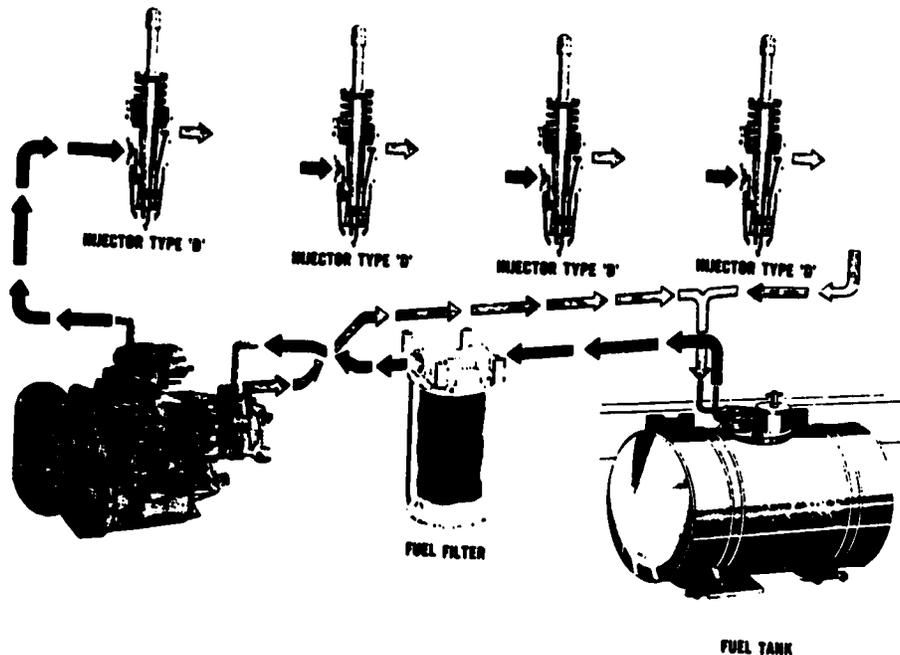

Fig 3-1. Pressure time (common rail) system fuel flow.
- The pressure time (common rail) system (fig 3-1), used exclusively on Cummins diesel engines, uses a gear driven pump to move fuel from the tank to the injectors. The fuel moving through the working parts provides lubrication and cooling for the injectors and pump. A flyweight governor controls the fuel pressure within the system and also the idle and top (maximum) speed. The throttle, regulated by the operator, controls the fuel flow and pressure to the injectors between idle and maximum speeds. The injector is operated by the camshaft. Fuel to all injectors is routed through passages in the cylinder head. The amount of fuel injected is controlled by the pressure of fuel in the manifold at the injector and the amount of time the fuel inlet orifice in the injector is open to receive fuel.